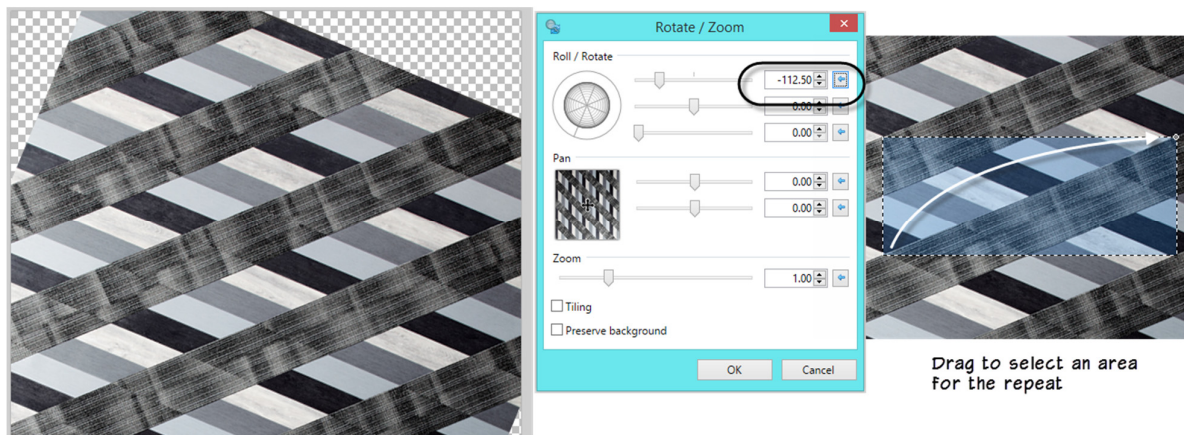

Figure 24—Rotate the image and select the rectangular repeat
4. Using the selection box, drag from the corner where the black VCT meets the carpet and diagonally up where the white VCT meets the carpet on the other side (see Figure 24).